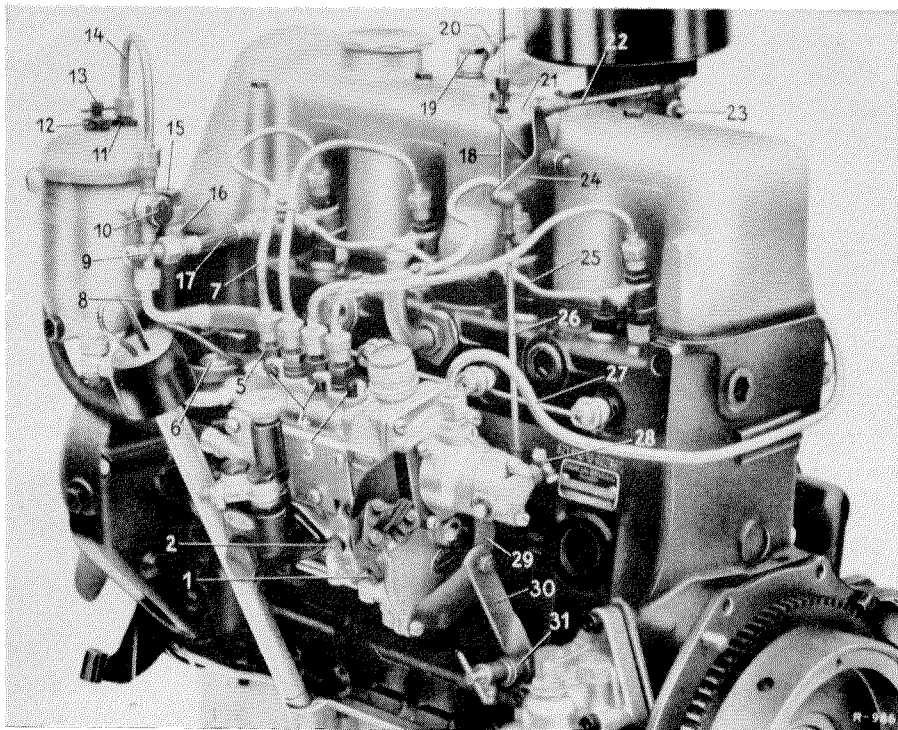

Figure 00-11/2
Note: With the OM 621, do not fail to check the wire cable (18) for free movement in the slot of the stop angle at the angular lever (24) (see Figure 00-11/2).